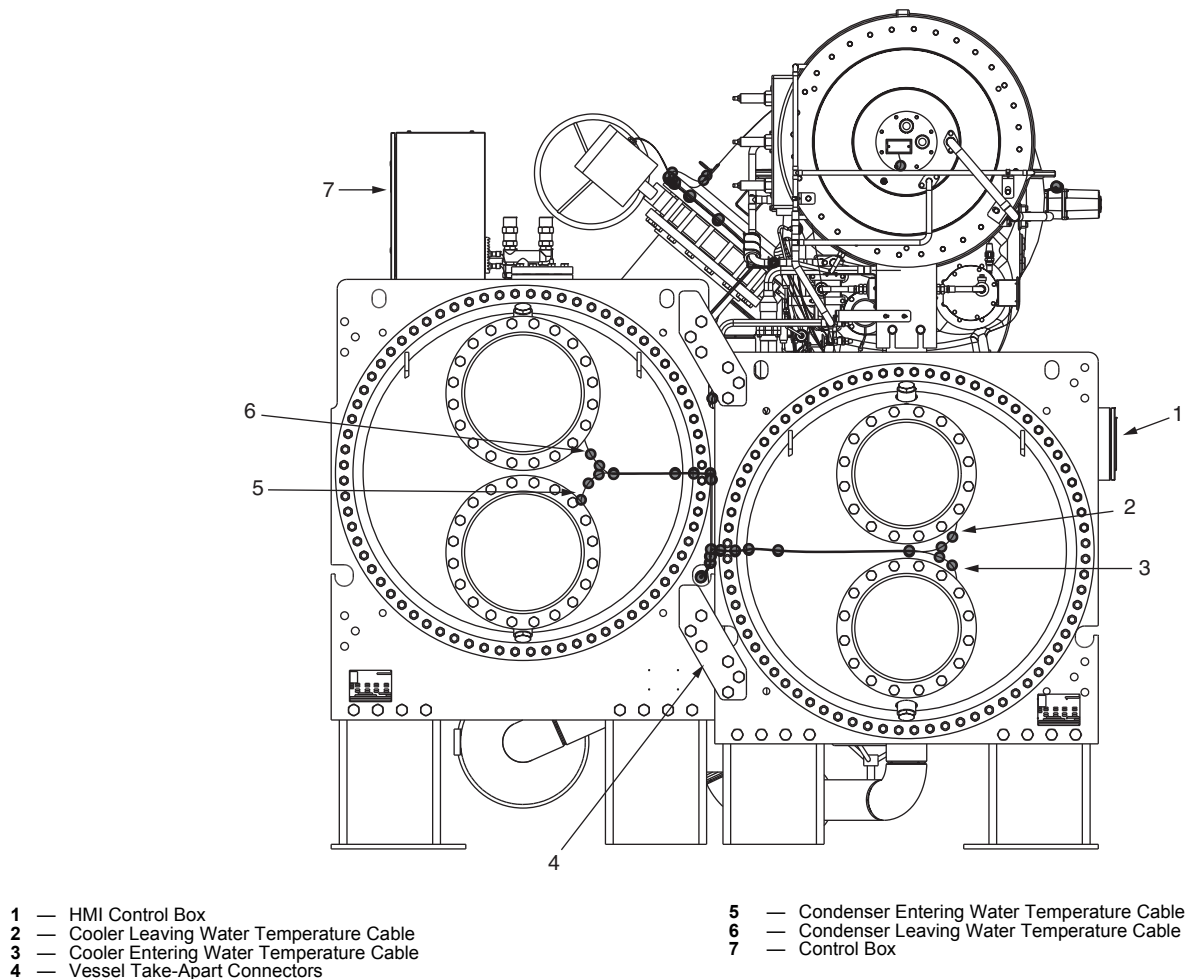

Fig. 30 — Chiller End View
- a. temperature sensor cable at the waterbox (Fig. 30 and Fig. 31, Compressor Detail A).
9. Disconnect the take-apart connectors on the tube sheets (Fig. 30).
To prevent damage to sensors, remove cooler and condenser water temperature sensors before welding connecting piping to water nozzles. Refer to Fig. 30. Replace sensors after welding is complete.